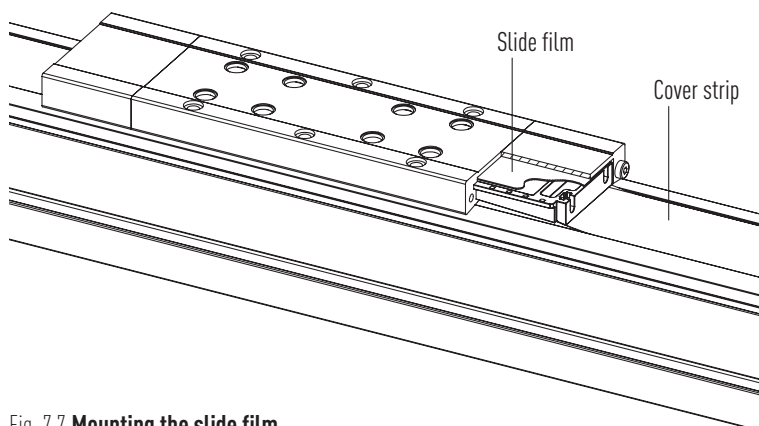

Fig. 7.7 **Mounting the slide film**
- ▶ Push the slide film through the upper opening in the cover strip deflection as shown in Fig. 7.7 and align it centrally in the longitudinal direction.